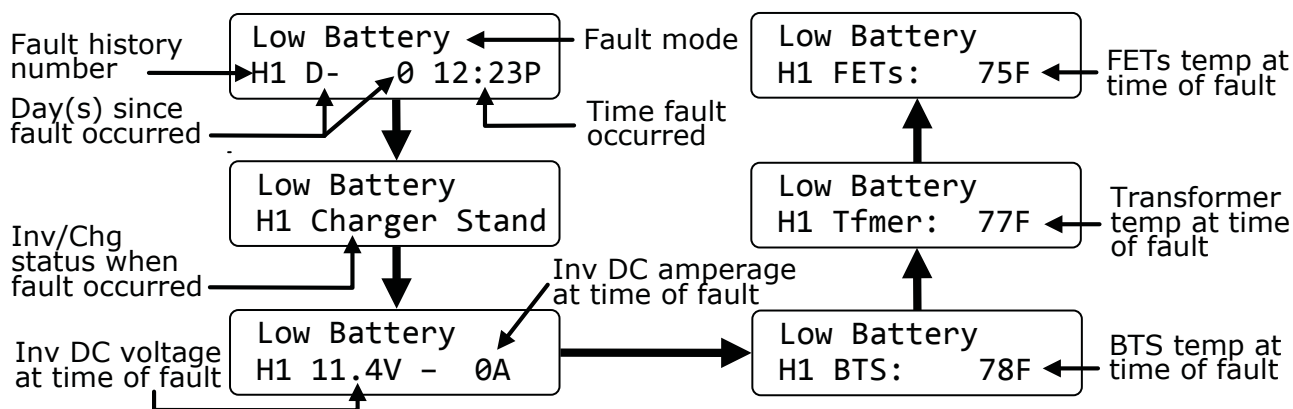

Figure 3-16, Inverter Fault History Screens
- **04A Inv Faults** – This menu displays a history of the last nine inverter/charger faults. Information for each fault displays from the most recent fault (H1) to the earliest/past recorded faults (H2 up to H9). Refer to Figure 3-16.